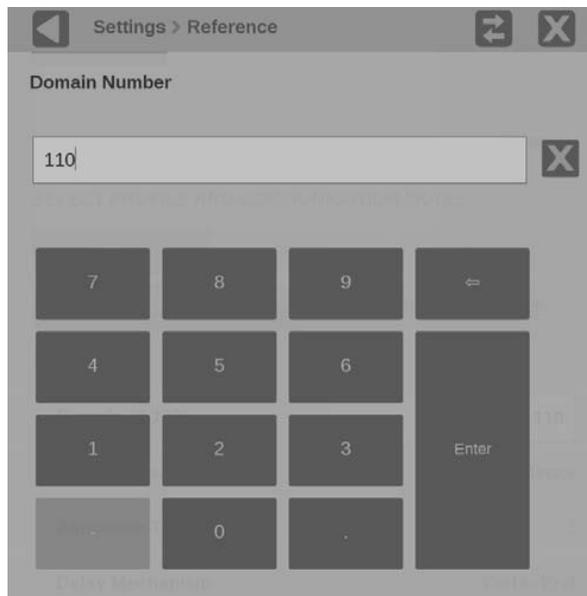

Figure 62: Domain number keypad for the PTP domain setting
6. Select the **Domain (0-127)** box to open the editing display, as shown in Figure 62.